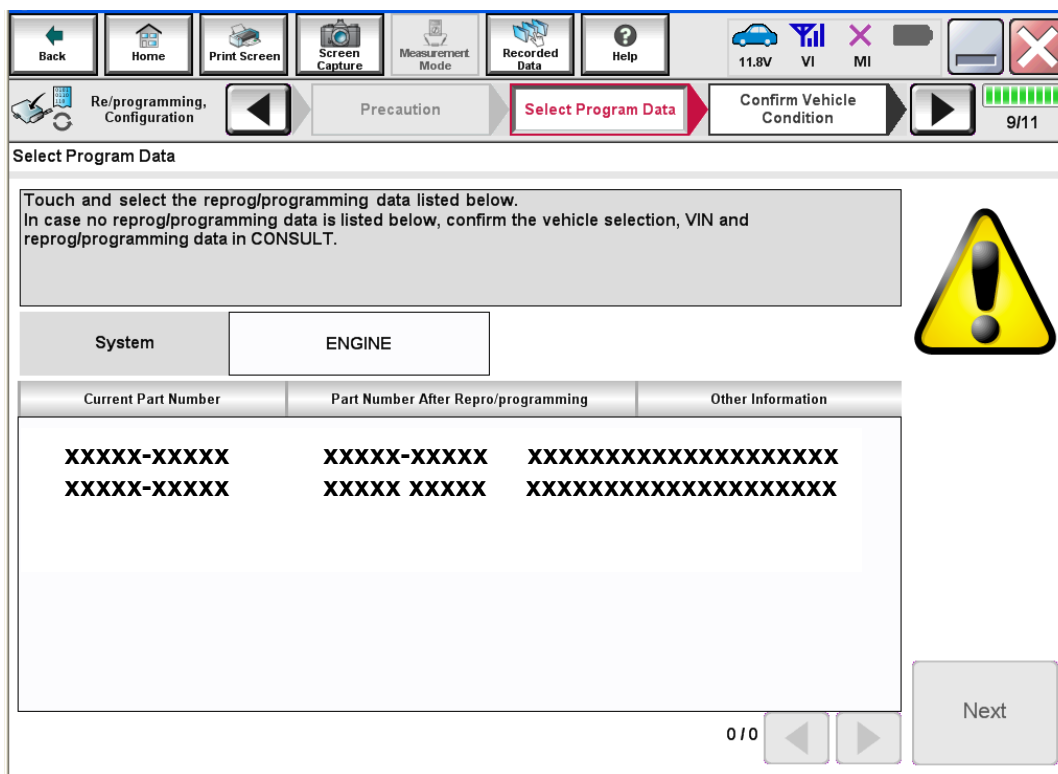

Figure 3
- If more than one new P/N is available, the screen in Figure 3 displays.